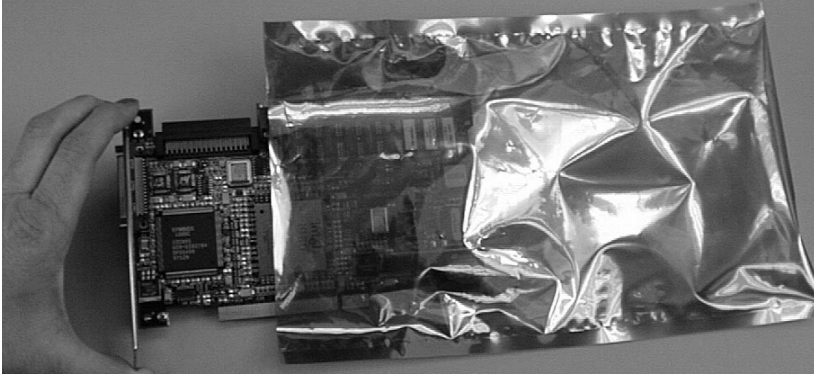

Figure 2-5. Remove the Anti-static Bag
3. Remove the AcceleRAID 150 controller board from the anti-static bag as shown in Figure 2-5.